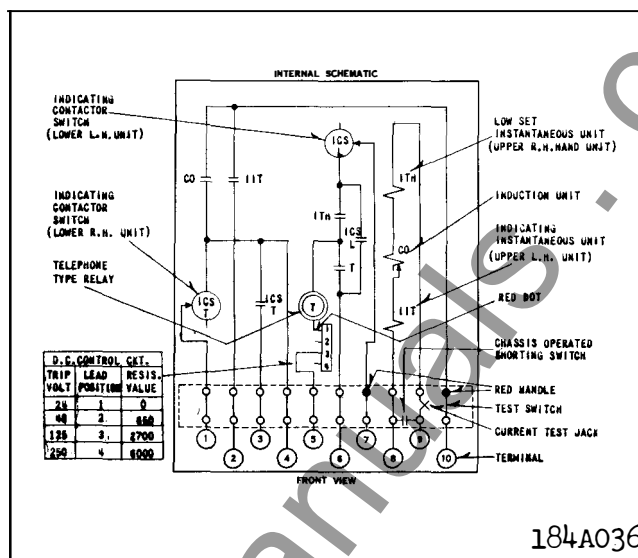

Fig. 17. Internal Schematic of the Type COM Relay with Auxiliary Time-Delay Unit and ITH Unit, in FT21 Case. (For S#289B456A – Series of COM-5 Relays).
The relay is shipped with the resistor tapped for 125 volt d-c service. See Fig. 17 or 18 for the proper positions for other d-c ratings. When viewed from the rear of the relay the red dot on terminal 1 of the resistor is on the extreme left.
7. Auxiliary Time-Delay Unit (T) - For relays wired per Fig. 17 or 18, apply 100 volts d-c to terminals 5 and 7. Manually close the contacts of the ITH or IT unit in the top right-hand corner of the relay. The T unit should operate.